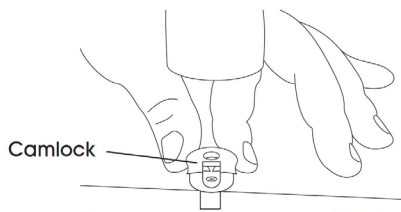

Figure 2
- 2 Install camlocks into the large holes in the kick base boards and tap into position with the rubber mallet. (See Figure 2)